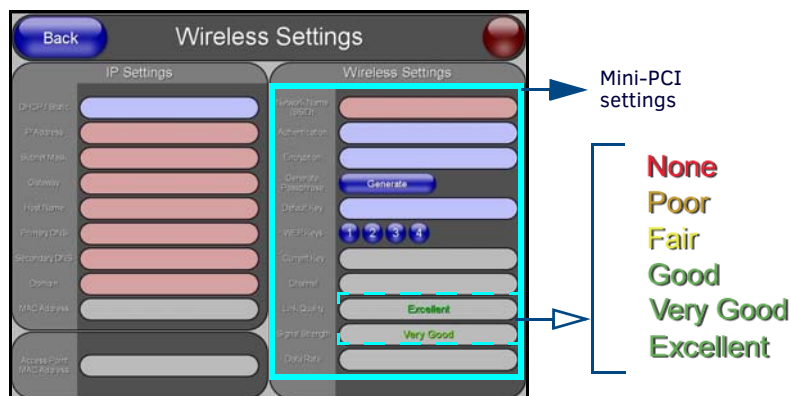

FIG. 77 Wireless Settings page (showing default values)
6. From within the Wireless Settings section of the Wireless Settings page, touch the *Network Name (SSID)* field (FIG. 77).
12. After the panel restarts, return to the Wireless Settings page to verify the Link Quality and Signal Strength: The bargraphs have been replaced with descriptions: **None**, **Poor**, **Fair**, **Good**, **Very Good**, and **Excellent** (FIG. 77).